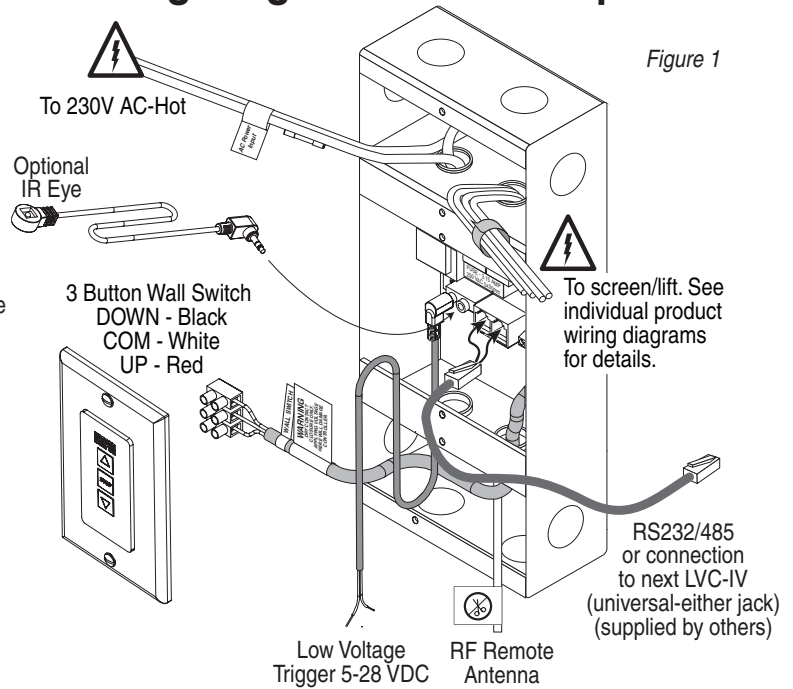

Figure 1
- ① Plug Optional IR Eye into mini plug input provided on LVC-IV (see Figs. 1 and 3).
- ② IR Remote Control transmitter does not need to be "learned" by the LVC-IV. Simply point and operate.
- ③ **Maximum IR Eye cable length is 106 cm.**
- ① Connect remote trigger voltage from projector to the low voltage trigger cable.
- ② Plug the mini-jack plug of the low voltage trigger cable to the LVC-IV (Figure 1 & 4).
- ③ When projector is 'ON' the low voltage output of the projector will cause LVC-IV to deploy projection screen. When projector 'OFF' the low voltage is removed from LVC-IV and projection screen will retract into case.